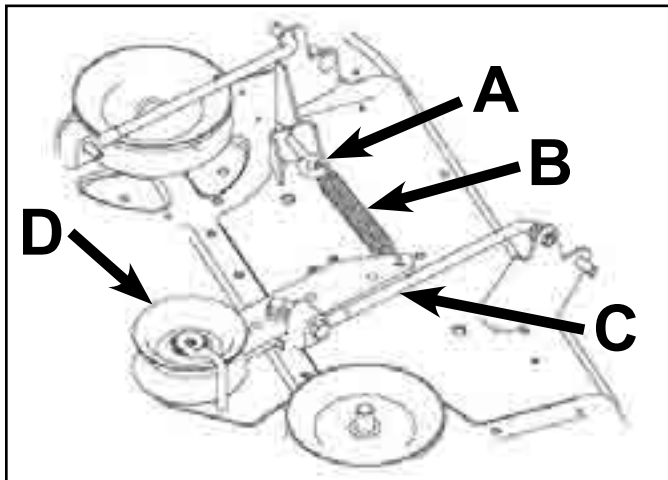

Fig A6 005 fig. 36 m-8207
7. Unhook the spring on the idler pulley arm from the bracket on the mower (Fig. A6 005).